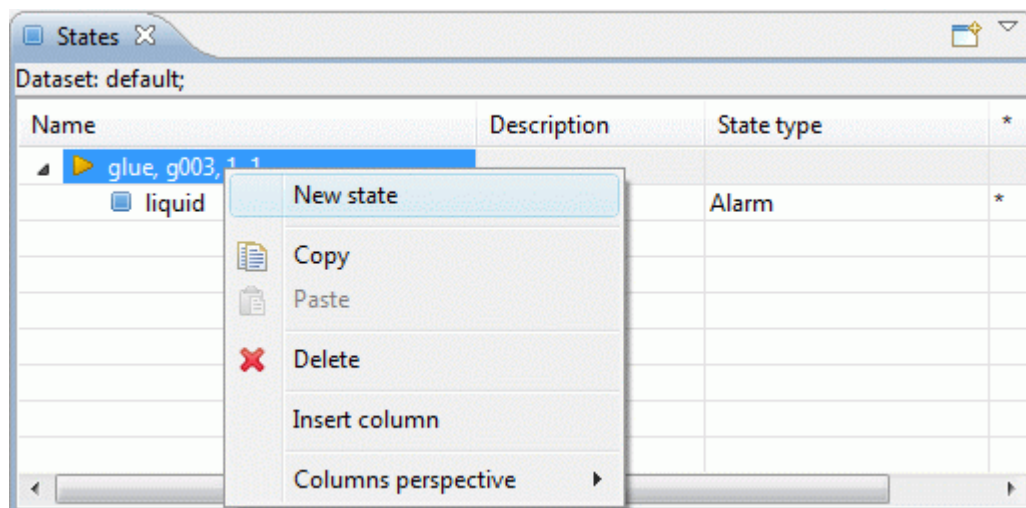

Figure 1. Context sensitive menu with selected New state menu item
- Select the **New state** menu item in the appeared context sensitive menu (see Figure 1).